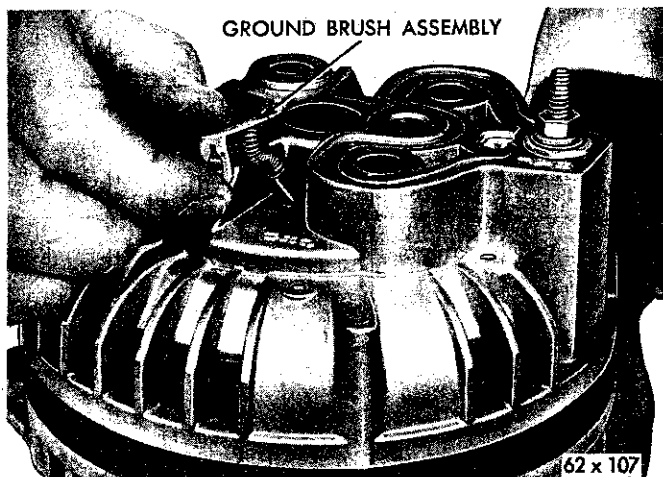

Fig. 13—Removing or Installing the Ground Brush
(2) The ground brush is positioned horizontally against the remaining slip ring and is retained in a holder that is integral with the end shield. Remove the retaining screw and lift the clip, spring and brush assembly from the end shield (Fig. 13).